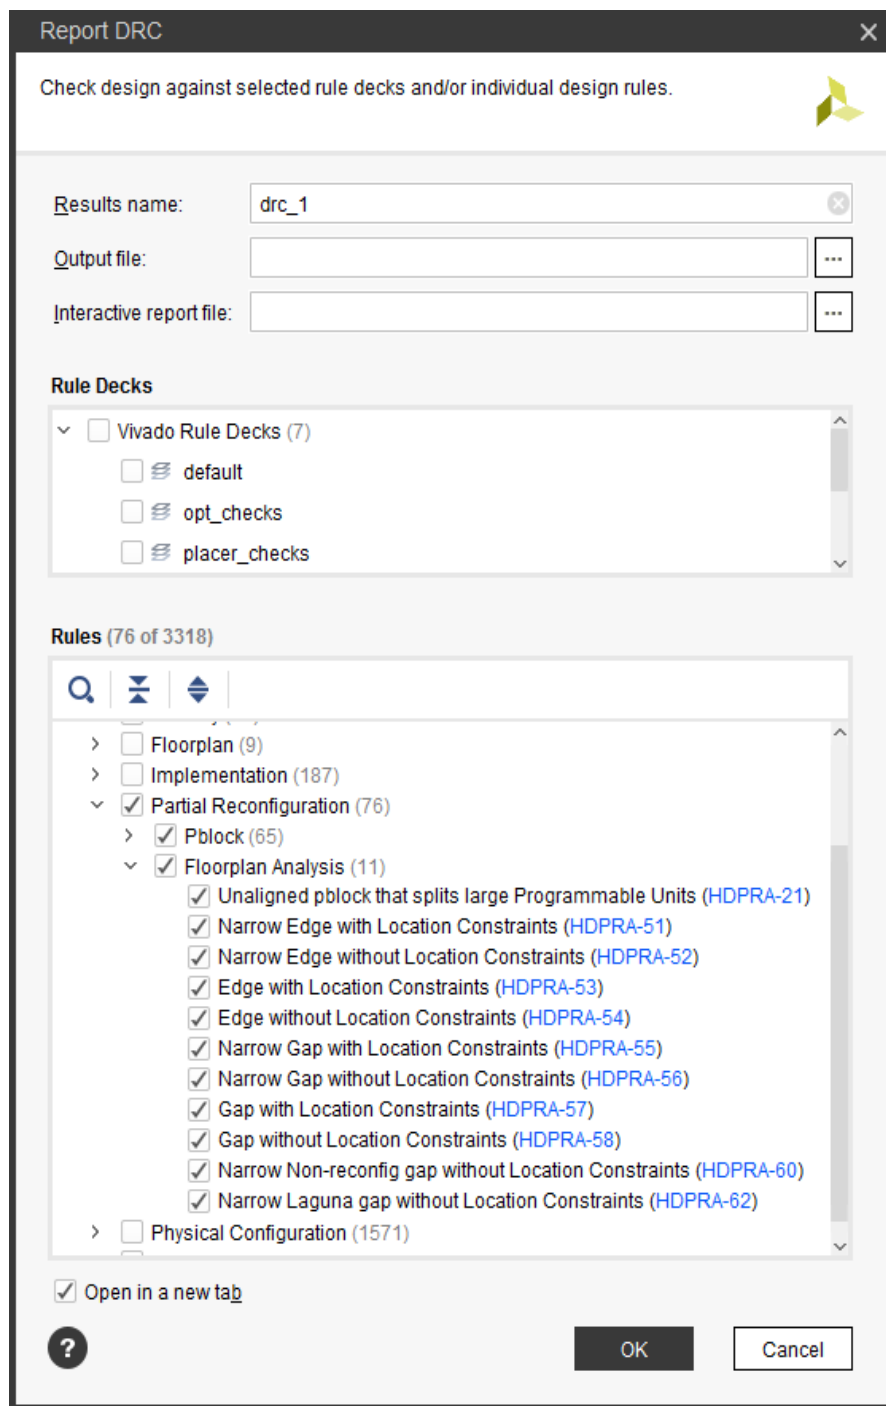

Figure 3-1: Partial Reconfiguration DRCs in the Vivado IDE
4. Design rule checks (DRCs) can be issued to validate the floorplan and other design considerations for the in-memory configuration. To run, select **Reports > Report DRC** and ensure the Partial Reconfiguration checks are present (see Figure 3-1, page 36). Note that if HD.RECONFIGURABLE has not been set on a Pblock, only a single DRC is available, instead of the full complement shown below.